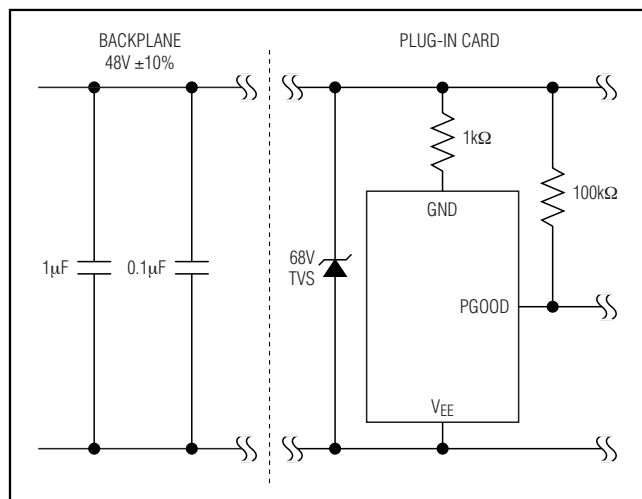

Figure 17. Protecting the MAX5936/MAX5937 Input from High-Voltage Transients
- 2) Add a high-frequency (ceramic) bypass capacitor on the backplane as close as possible to the plug-in connector (Figure 17).